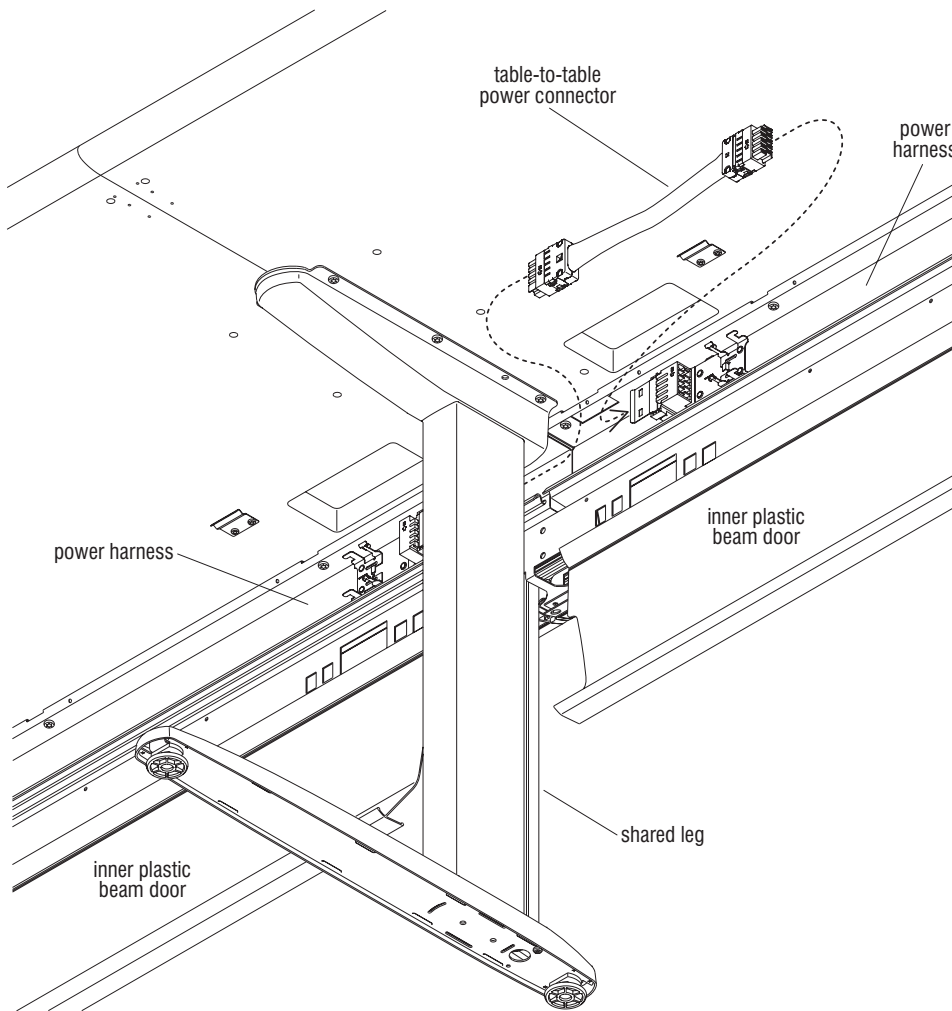

Figure 3
1. Un-clip and open the inner plastic beam doors to access the power harnesses in the power beams (Figure 3).
2. Route the table-to-table power connector behind the shared leg. Snap the connector ends into the forward most left- and right-hand sockets of the power harness while bending the middle of the connector to the back of the beam (Figure 3).